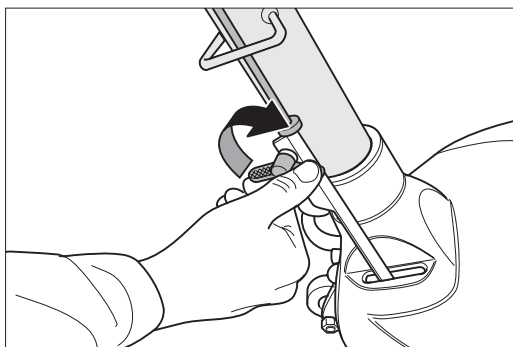

Fig. 3 After inserting the guide tube, carefully tighten the wing screw and ...
- 3 Tighten the wing screw and the wing nut (Figs. 3 and 4).